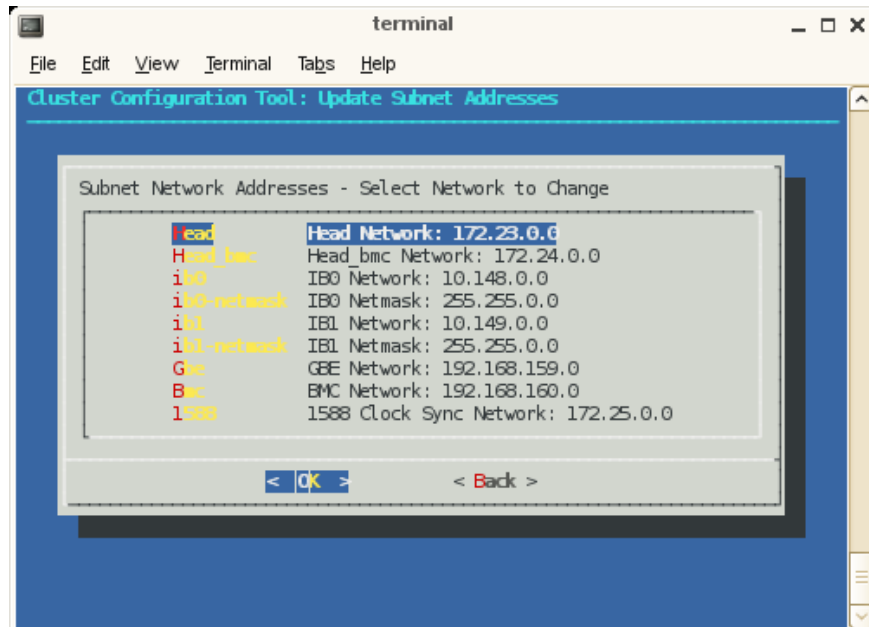

Figure 2-19 Update Subnet Addresses Screen
30. The **Update Subnet Addresses** screen appears, as shown in Figure 2-19 on page 52.